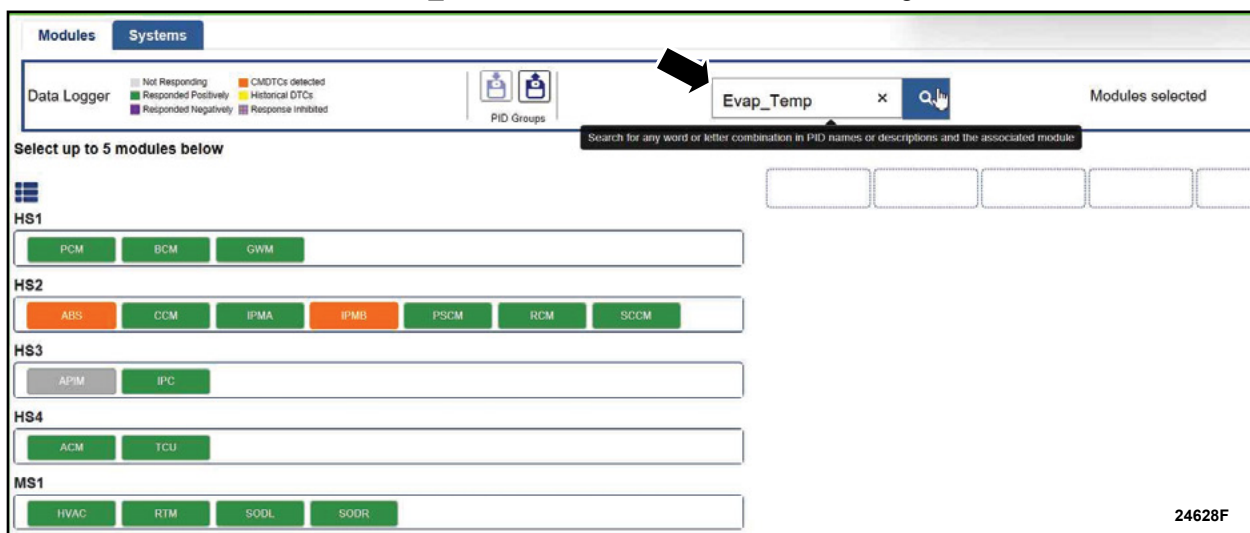

FIGURE 7
16. Use the search bar, enter **EVAP_TEMP** and then click **SEARCH**. See Figure 7.